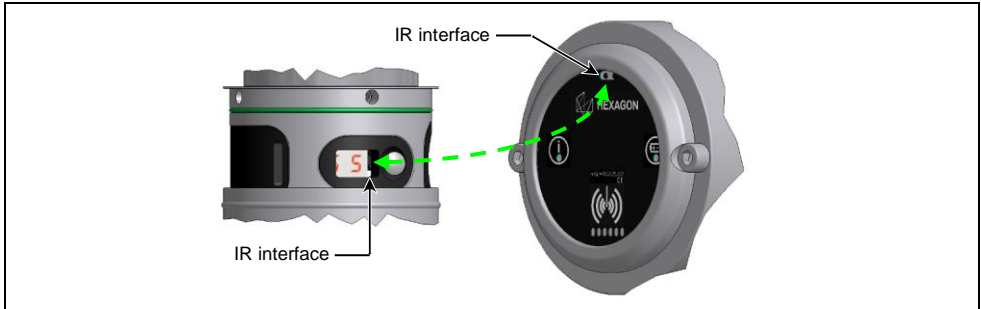

Fig. 15 Synchronisation
5. Synchronise the touch probe. To do this, hold the IR interface of the touch probe directly in front of the IR interface on the receiver. The receiver needs to be switched on for this (refer to Fig. 15).